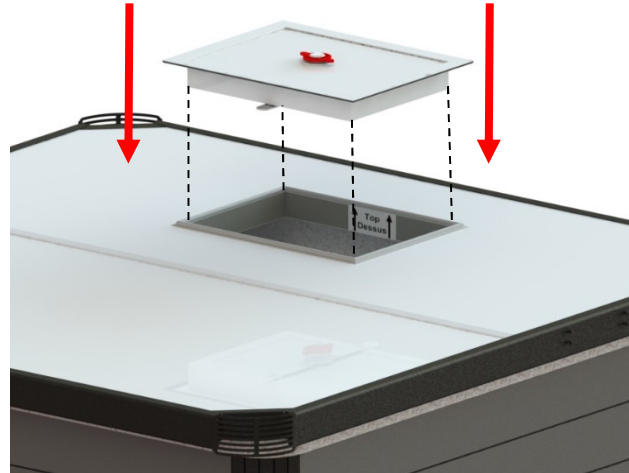

Figure 57
- 17) Turn the escape hatch handle to retract the arms and install it into the escape hatch opening of the panel. (Figure 57)